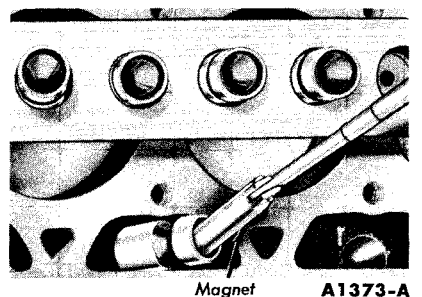

FIG. 55—Valve Tappet Removal
2. Using a magnet, remove and install one tappet at a time (Fig. 55). Apply Lubriplate to each tappet foot and coat the remainder of the tappet with engine oil before installation.